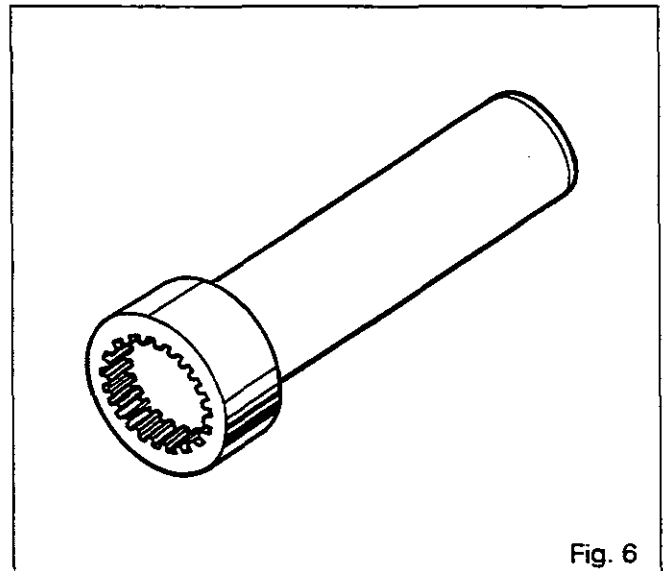

Fig. 6
3378004M1 - Sleeve (Fig. 6)
4. Unscrew bolts (24) (Fig.6).
5. Screw two pilot pins into the gearbox housing in diametrically opposed positions (Fig.6).
6. Unscrew the three bolts (49) a little at a time, taking them in order (Fig.6).
7. Remove cover (27) together with shaft (36) (Fig.6). Discard O-rings (1) and (2), (19).
8. Take out disc (21), pressure plate (20), Belleville spring disc (18) and planetary carrier assembly (50).
9. Extract circlip (37) and take out lug washer (38).
10. Withdraw shaft (36) from the front of the cover.
11. Remove washer (39).